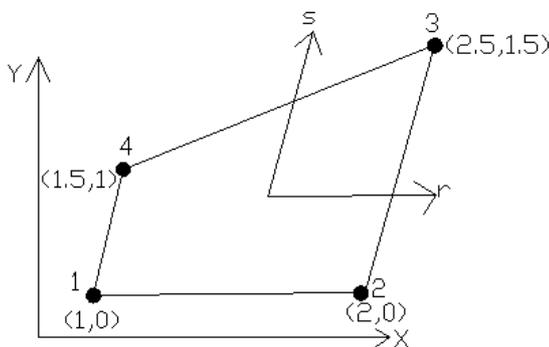

Fig.4
32. Evaluate the Jacobian matrix for the Isoparametric quadrilateral element shown in Fig.4. [K₄]